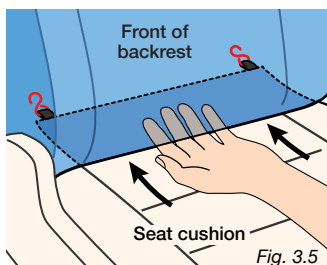

Fig. 3.5
D. When the backrest cover has been pulled all the way down, feed the bottom flap at the front of the backrest cover through the opening between the seat cushion and backrest (Fig. 3.5). If needed, use the Install Tool by hooking the S-hook into the tool and using it to push both the strap and flap through the opening (Fig. 3.6).